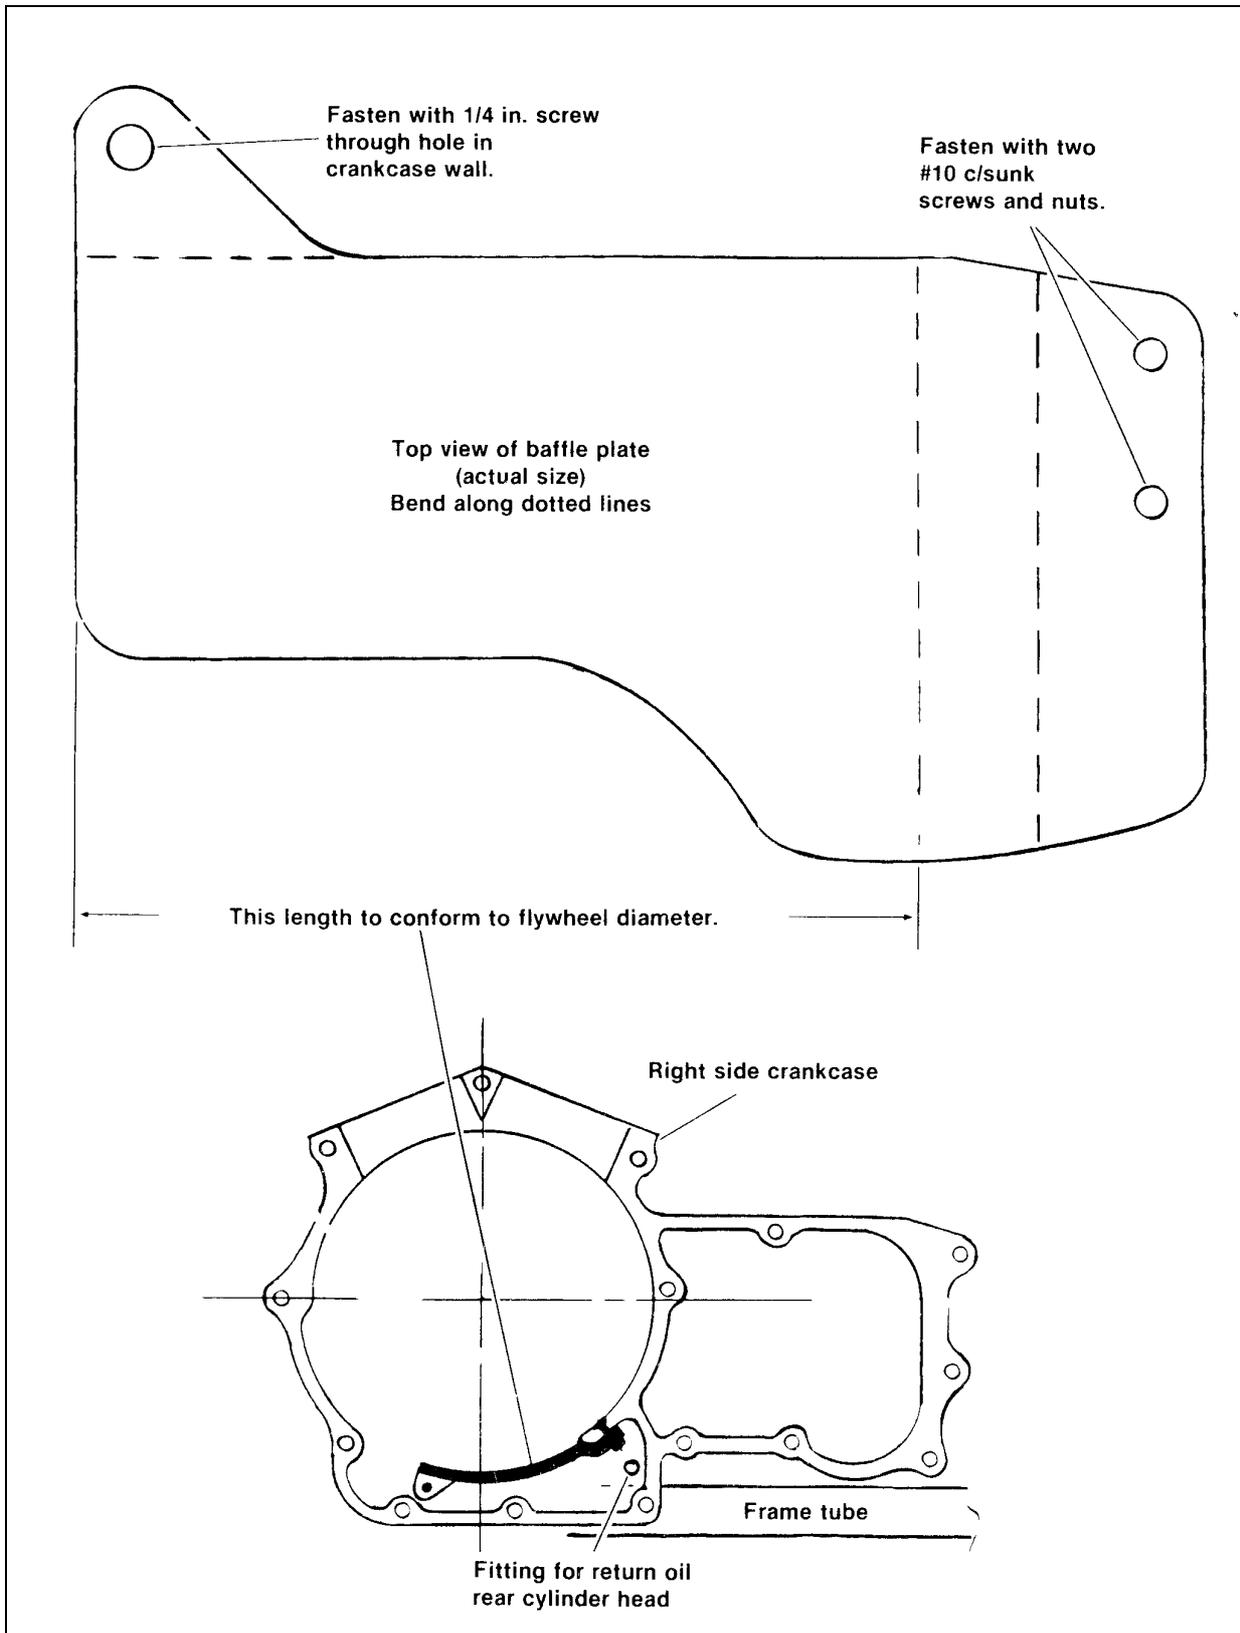

Figure 2. Oil System Modifications
**OILING SYSTEM** See Figure 2 Add baffle plate to crankcase sump as shown.
Change return oil line from rear cylinder head to drain directly into sump For this a 1/8 in. taper pipe thread hose fitting has to be installed in the right crankcase (see bottom view of Figure 2). Locate this fitting with engine mounted in the frame.